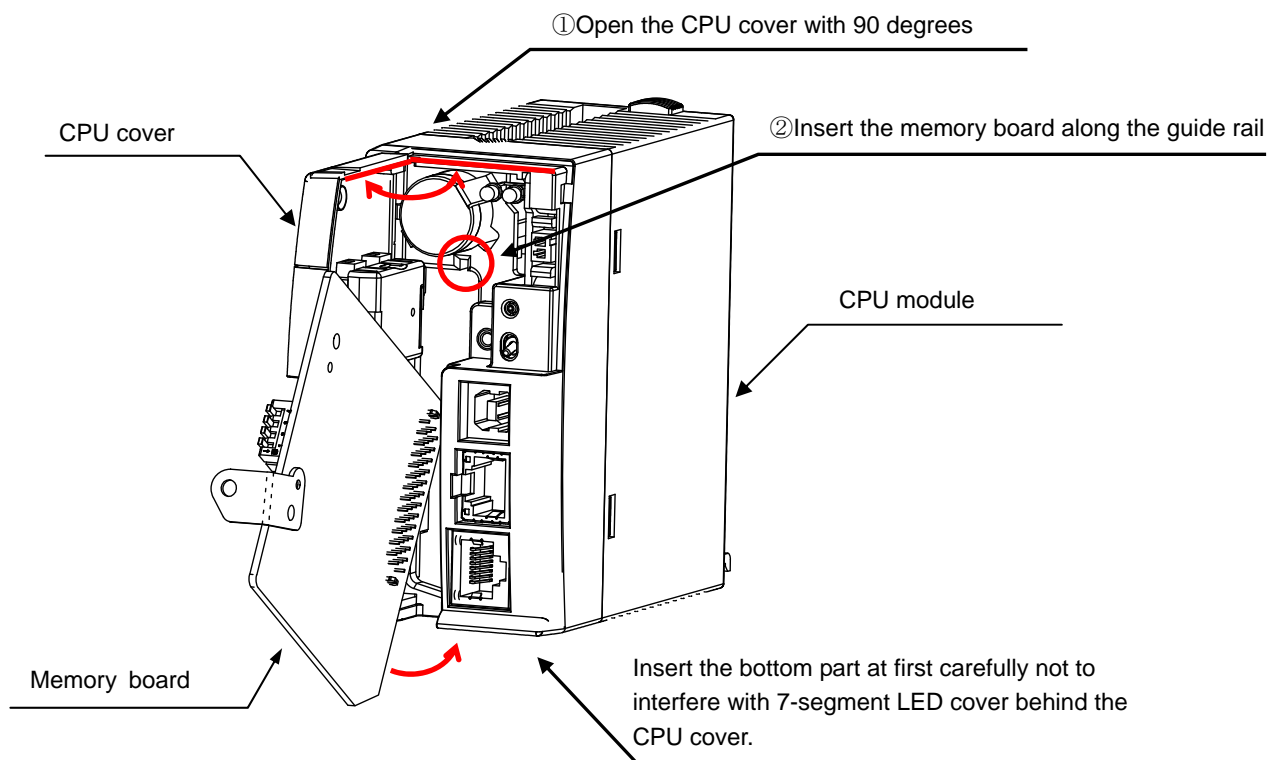

Figure1 Inserting the memory board
- (1) Set the DIP switches according to the Table 1.
- (2) Mount the memory board in the CPU module (Refer to the Figure 1)
- (3) Supply power to PLC.
- (4) Check the indication of 7-segment LED on the CPU module.